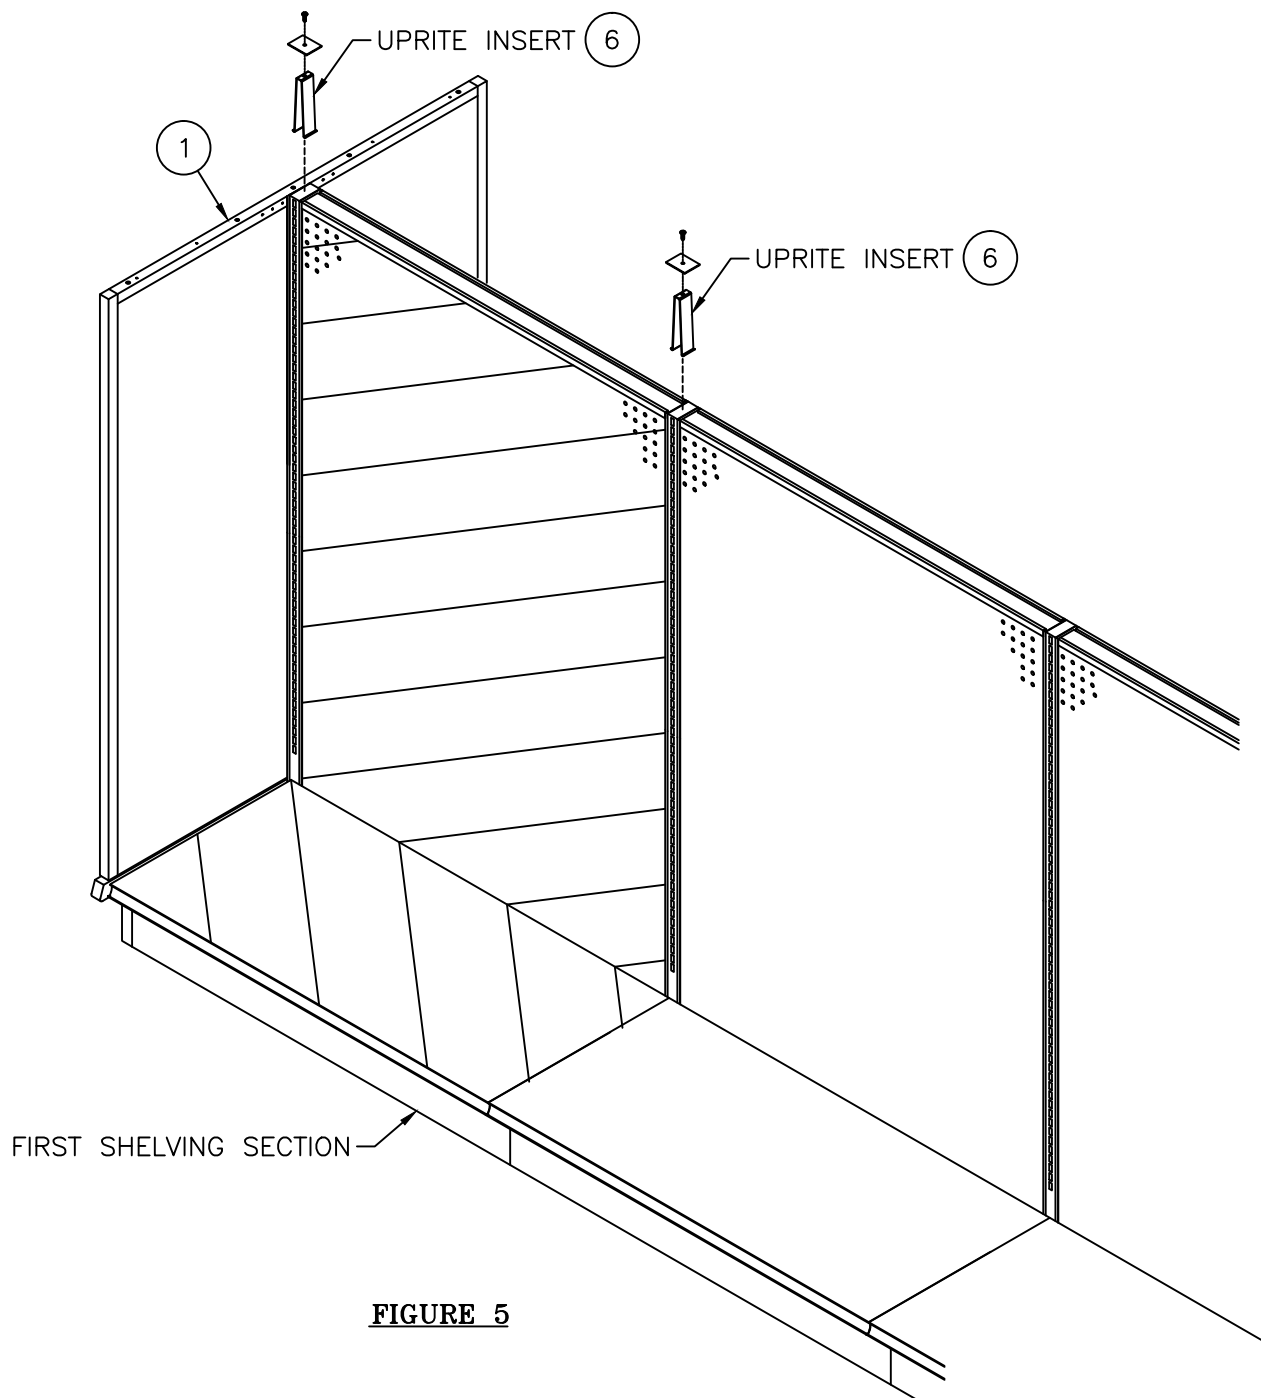

FIGURE 5
WARNING: When using Item 1 on a fixture, where the First Shelving Section behind item 1 is not equipped with shelves that engage into the uprite slots, top rail hold down clips with Uprite Insert (Lozier P/N HMA4381) must be installed as shown in Figure 5. Failure to do this could allow the top rail to become disengaged, and the fixture to fall over, causing product damage or personal injury.